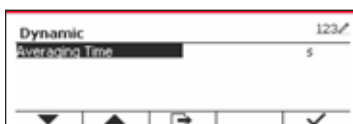

Figure 78
1. Press the button corresponding to the  icon to enter Dynamic submenu to change averaging time. (See Figure 78)